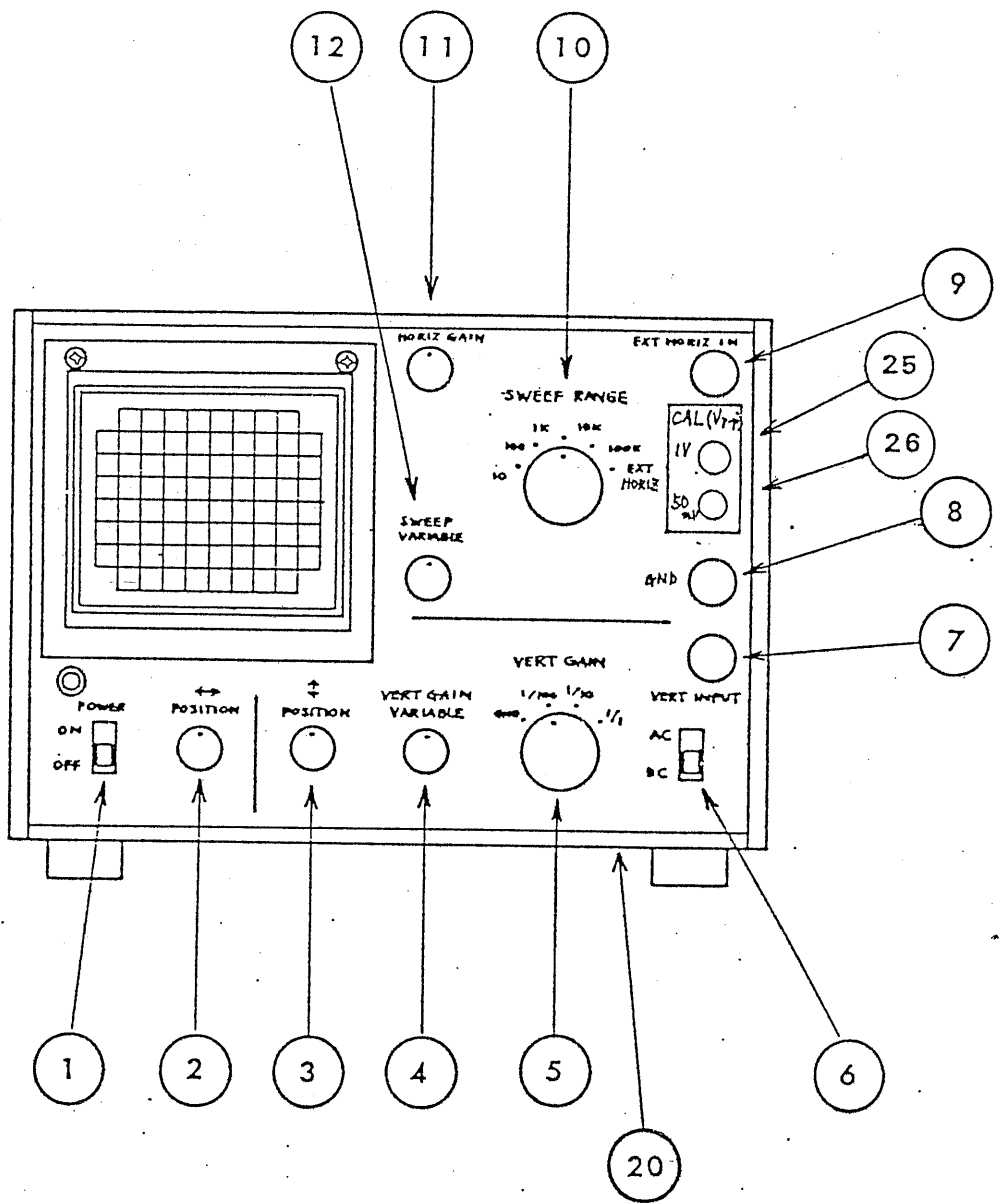

Fig.1
3. EXPLANATION OF PANEL (Fig. 1 and 2)